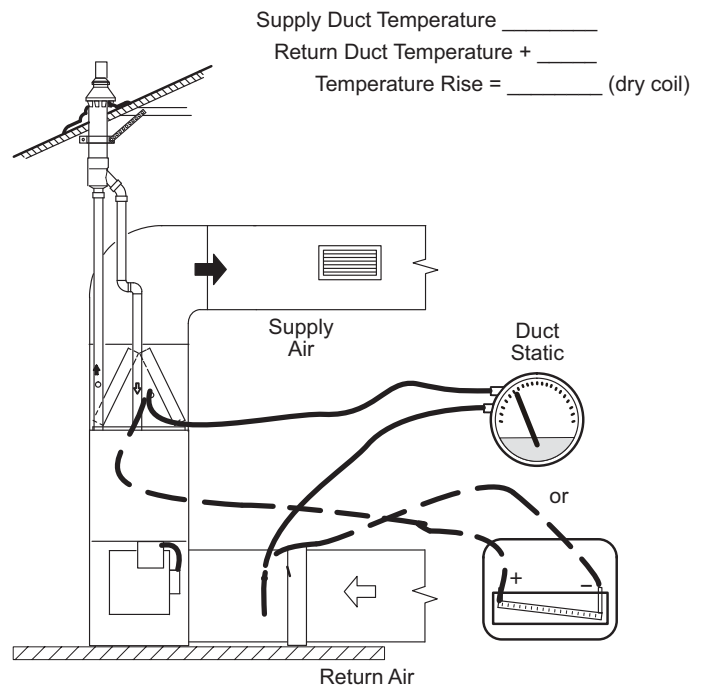

Figure 49. Static Pressure Test
1. Tap locations shown in **Figure 49**.